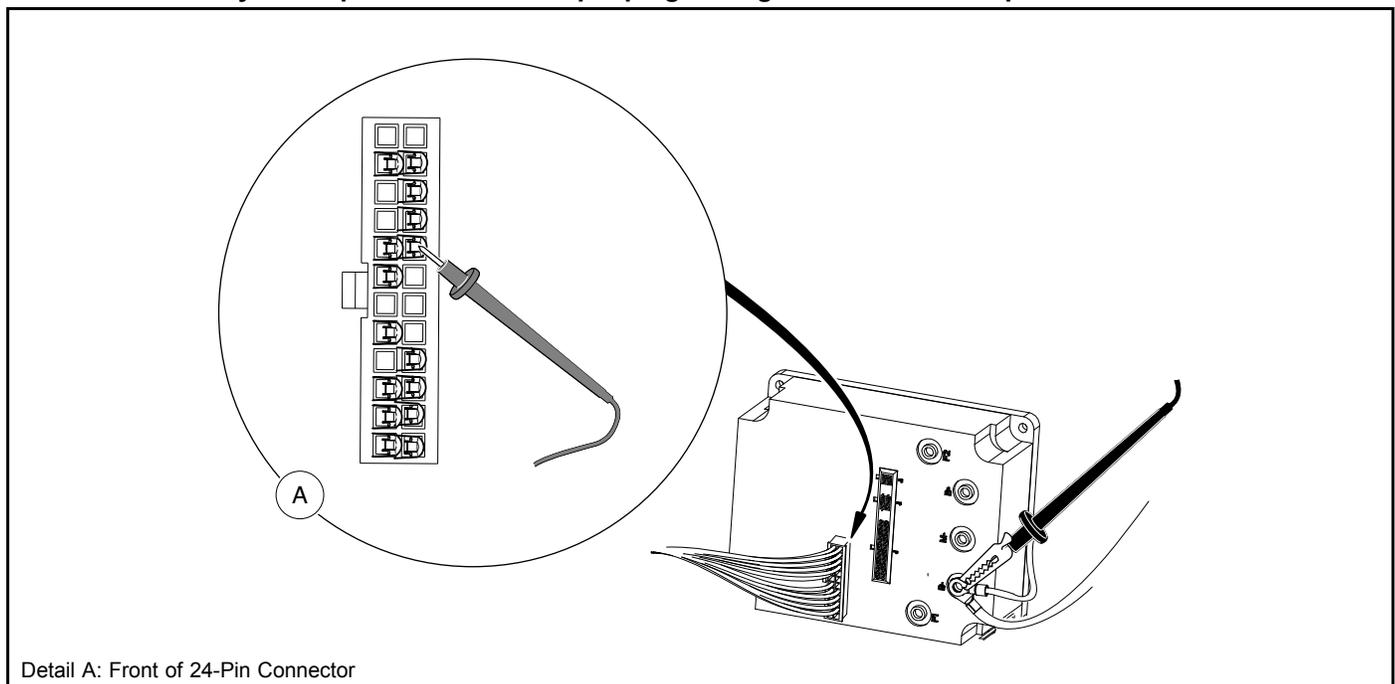

Figure 22-14 Test: Pin 8 (Green Wire)
4. Set a multimeter to 200 volts DC, insert the red (+) probe of the multimeter into pin 8 (green wire) of the 24-pin connector. **See following CAUTION.** Using an alligator clip, connect the black (–) probe to the B– terminal of the speed controller (**Figure 22-14, Page 22-23**).